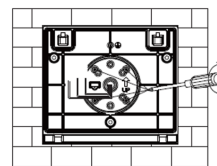

Fig. 1.4
5. Secure the mounting plate to the surface with screws (Fig. 1.4).